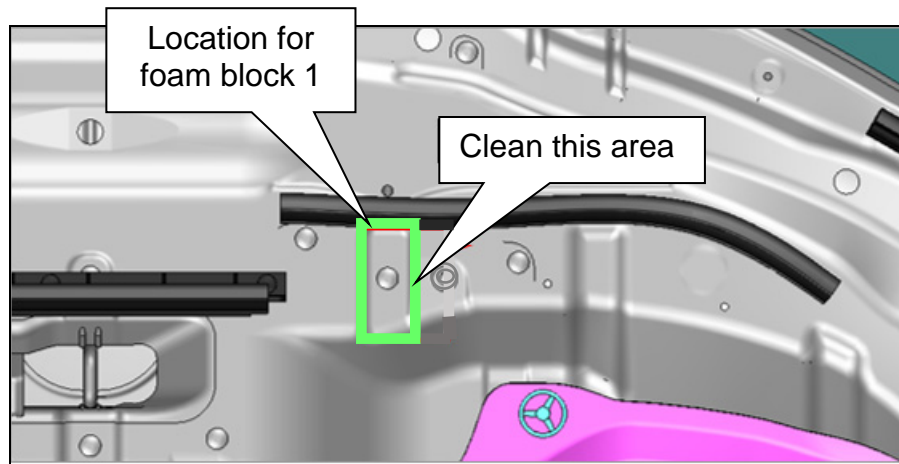

Figure 2
5. Clean the area of the hood with 50% isopropyl alcohol or equivalent cleaner where foam block 1 will be attached (shown outlined in green in Figure 2).